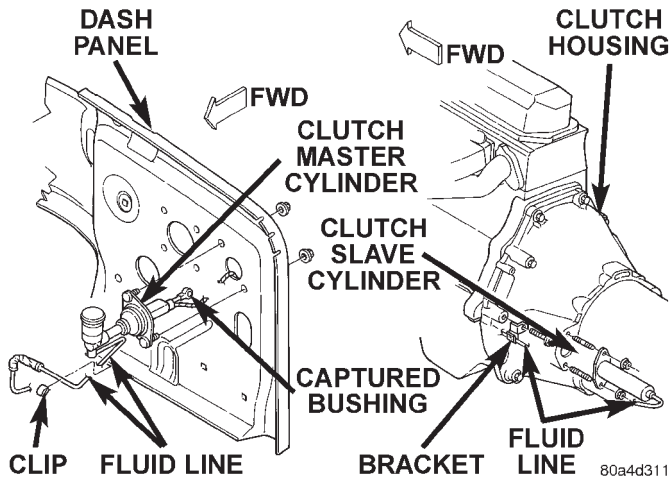
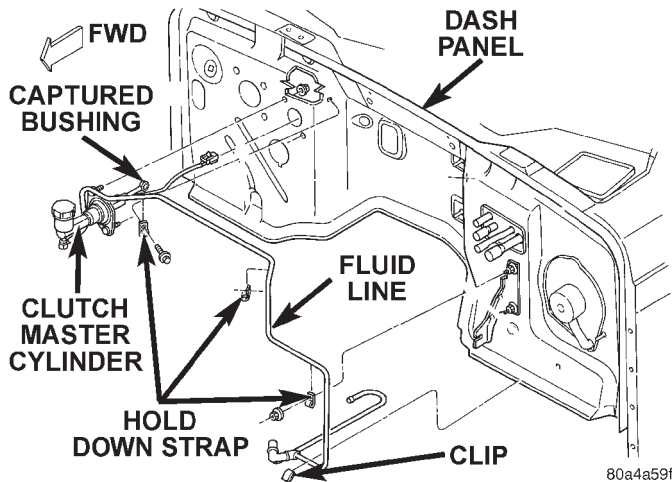

Fig. 9 Slave Cylinder and Left Hand Drive Clutch Master Cylinder
Fig. 10 Right Hand Drive Clutch Master Cylinder
- (1) Raise vehicle.
- (2) Remove fasteners attaching slave cylinder to clutch housing.
- (3) Remove slave cylinder from clutch housing (Fig. 9).
- (4) Disengage clutch fluid line from body clips.
- (5) Lower vehicle.
- (6) Verify that cap on clutch master cylinder reservoir is tight. This is necessary to avoid spilling fluid during removal.
- (7) Remove clutch master cylinder attaching nuts (Fig. 9) or (Fig. 10).
- (8) Disengage captured bushing on clutch master cylinder actuator from pivot pin on pedal arm.
- (9) Slide actuator off pivot pin.
- (10) Disconnect clutch interlock safety switch wires.
- (11) Remove clutch hydraulic linkage through engine compartment.
- (1) Be sure reservoir cover on clutch master cylinder is tight to avoid spills.
- (2) Position clutch linkage components in vehicle. Work connecting line and slave cylinder downward past engine and adjacent to clutch housing (Fig. 9) or (Fig. 10).
- (3) Position clutch master cylinder on dash panel (Fig. 9) or (Fig. 10).
- (4) Attach clutch master cylinder actuator to pivot pin on clutch pedal.
- (5) Install and tighten clutch master cylinder attaching nuts to 38 N·m (28 ft. lbs.) torque.
- (6) Raise vehicle.